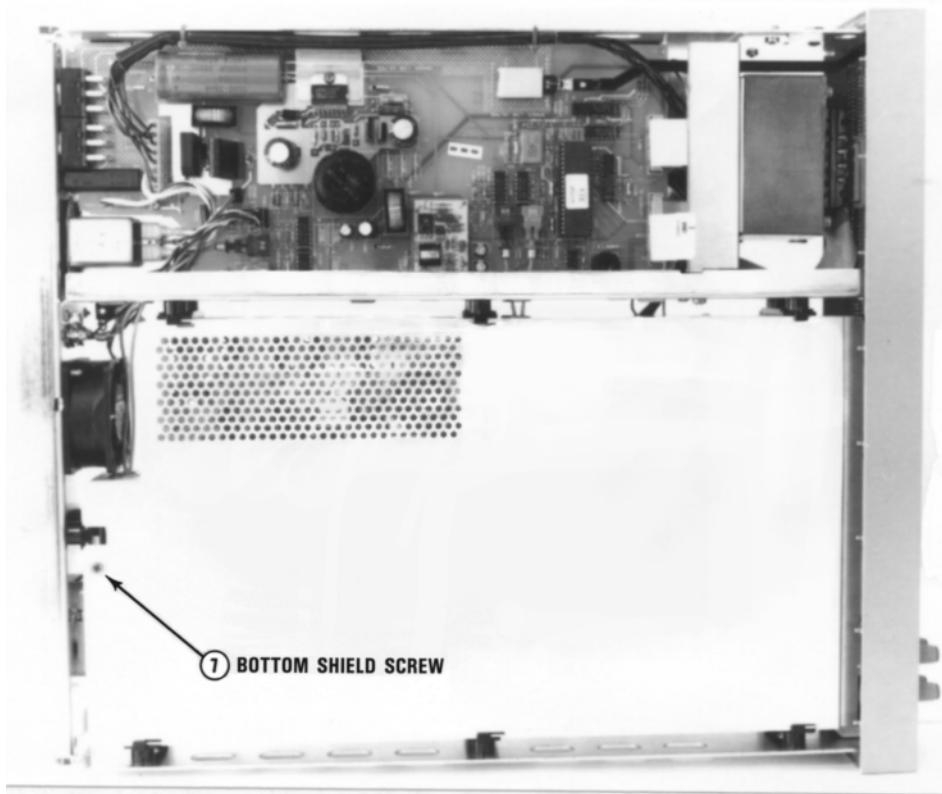

Figure C-5 3458A inside bottom view
- 1 Refer to Figure C-5. Use the #TX 10 Torx driver to remove the bottom shield screw. Then remove the shield. Pull the shield toward the rear of the instrument until the shield retainers line up with the slots in the shield. Lift the shield off.
- 3 Refer to Figure C-5. Replace the bottom shield. Line up the slots on the shield with the shield retainers. Then push the shield toward the front of the instrument until the shield screw hole lines up with the screw hole in the chassis. Use the #TX 10 Torx driver to reinstall the shield screw.